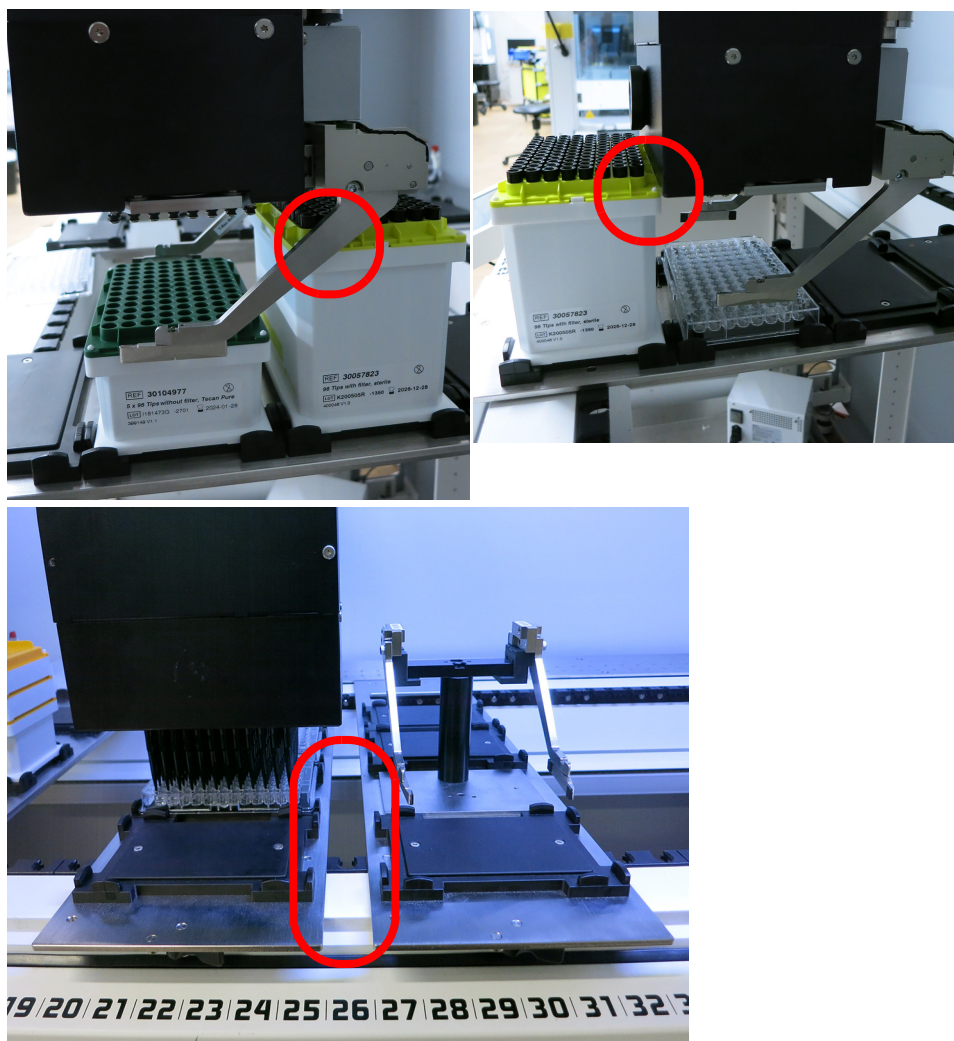

Fig. 4-6 Collision with Labware
- ♦ can result in a collision warning for situations as shown in Figure 4-6 a) and b), where the head would collide with the adjacent object.
- ♦ Create deck layouts with enough spacing, e.g. 1 grid spacing between two segments is recommended as shown in Fig. 4-6 c).